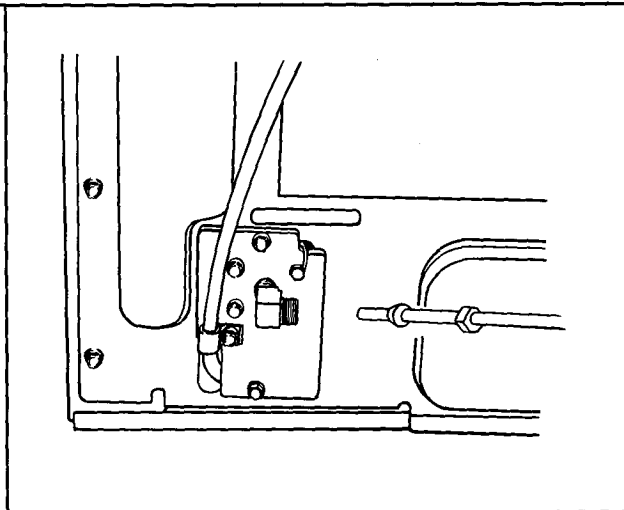

Figure 30
4. Remove brass nut and brass sleeve from the saddle valve plastic bag and use to hook-up the 1/4" O.D. copper tube to the water valve. See Figure 30.
5. Slip brass nut and brass sleeve over end of 1/4 inch copper tube. *Make sure you start brass nut by hand to avoid cross threading.* Insert 1/4" tube completely into fitting using one 1/2" open end and one 3/8" wrench, and secure with one to tighten brass nut on tube and other to hold 3/8" flat on fitting. See Figure 30. **NOTE: Pull on copper tubing to see if the tubing is secured to adapter fitting.**